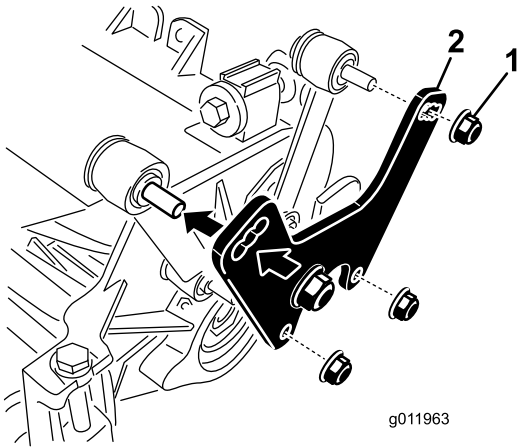

Figure 7
1. Remove the nuts and washers securing the lift links to the cutting-unit side plate and carrier frame (Figure 7).